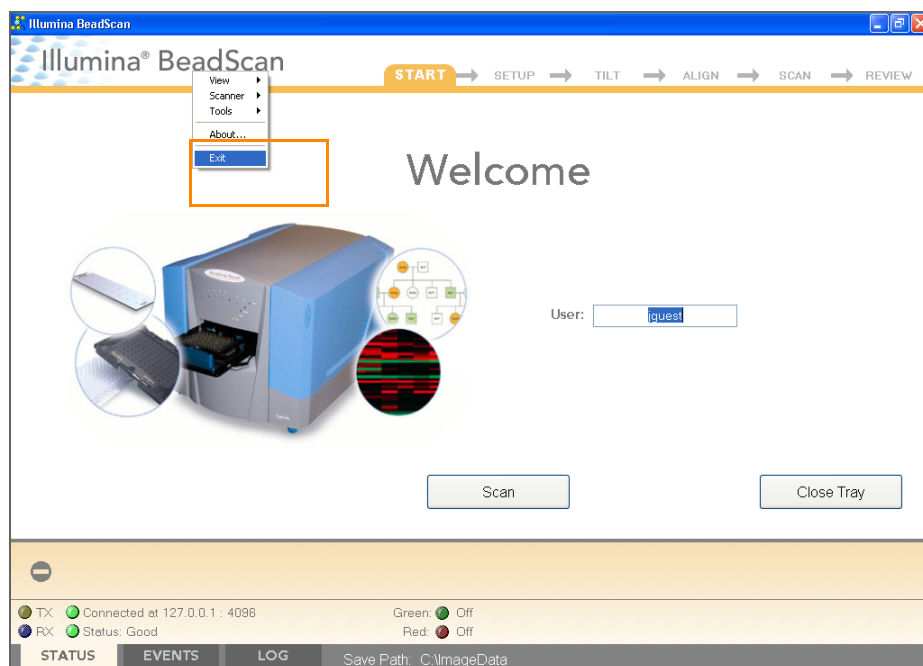

Figure 198 Exit the BeadArray Reader Software
- d. Shut down the BeadArray Reader BeadScan software. To exit, right-click near the Illumina logo and click **Exit** (Figure 198).